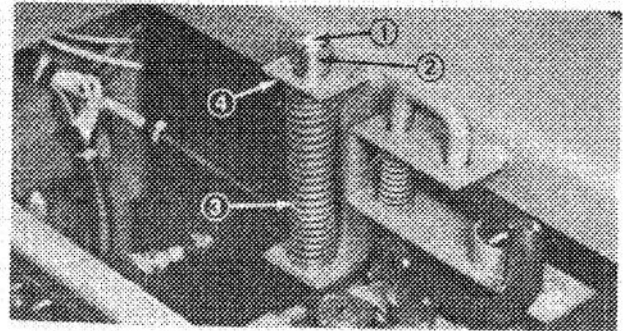

Figure 5
- Secure olive colored spring from deluxe seat kit and pin to seat support bracket by compressing spring and inserting roll pin through pin (Fig. 5).